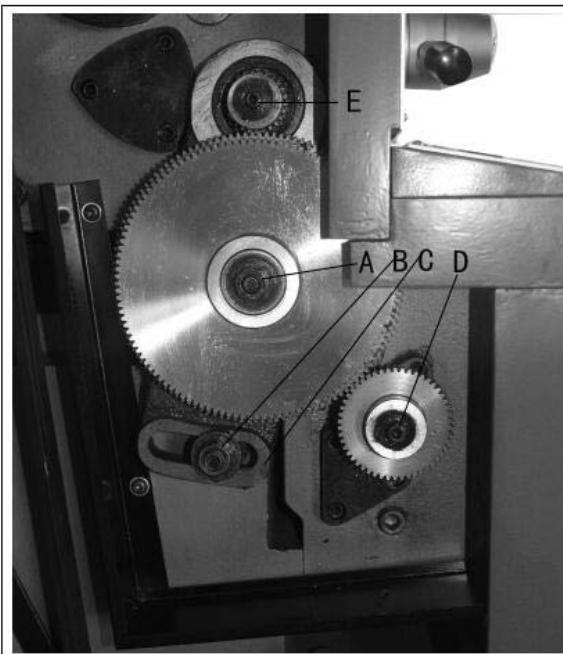

Figure 19
3. Loosen nuts (A & B, Fig. 19).
4. Move quadrant (C, Fig. 19) out of the way and hold in place temporarily by tightening nut (B, Fig. 19).
5. Remove hex socket cap screws (D and/or E, Fig. 19), depending on which gear is to be changed.
7. Loosen nut (B, Fig. 19), move quadrant back so teeth mesh on gears, and tighten nuts (A & B, Fig. 19).
3. Push lever (B, Fig. 19) to the right.